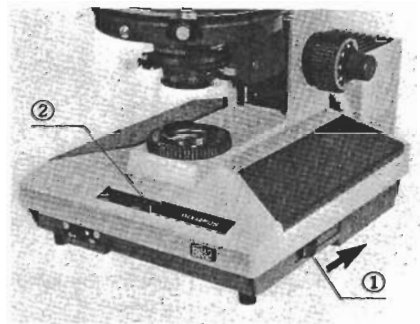

Fig. 6
- 2) Place the sliding voltage control lever ① on the right side of the microscope base to a position closest to you (low voltage position). (Fig. 6)
- As you push the control lever ① in the direction of the arrow in order to obtain increasing intensity (Fig. 6), the LED readout ② will display the lamp voltage.